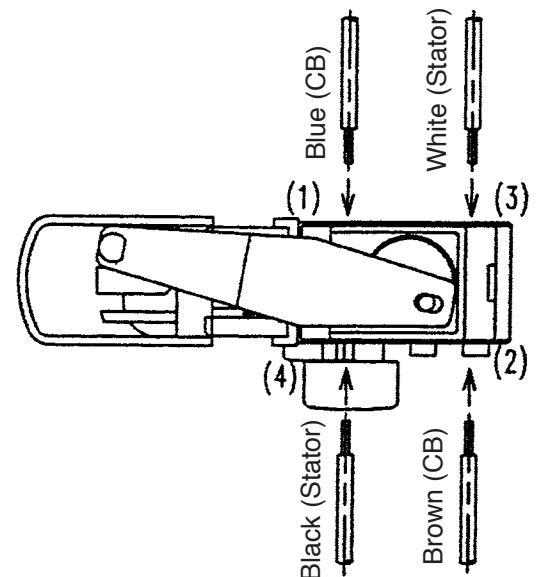

Fig. 29 Wiring of reversing switch
(1) Wiring of reversing switch
Insert the lead wire (black) coming from the stator into the terminal (4) of the reversing switch, and the lead wire (white) into the terminal (3) as shown in Fig. 29.